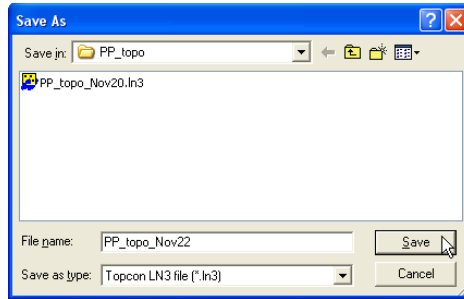

Figure 4-10. Export Linework to 3D Linework File
2. On the **Save As** dialog box, type a name for the new linework file or select a linework file to replace. Click **OK** to export the file (Figure 4-10).